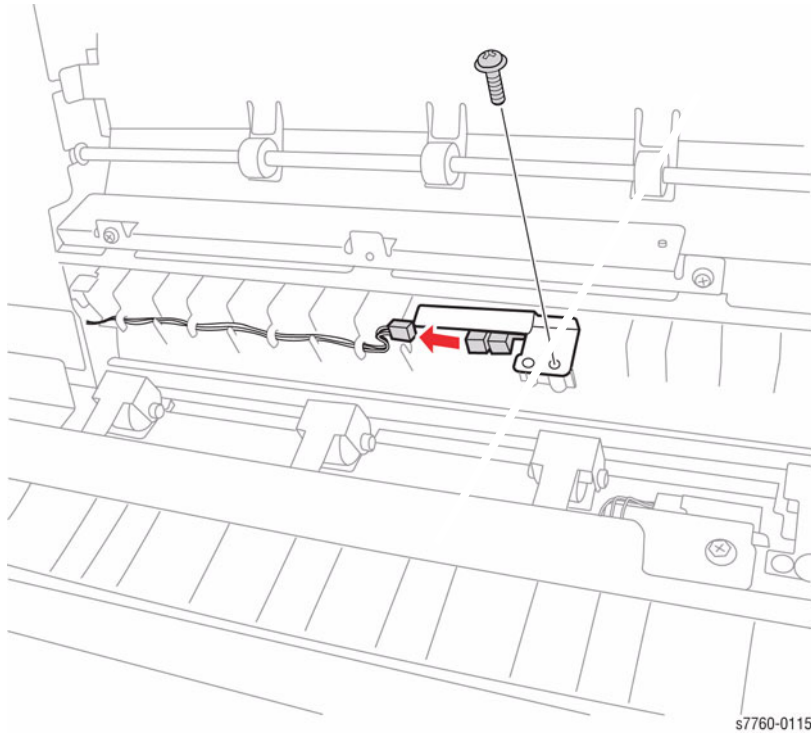

Figure 1 Removing Buffer Path Sensor
4. Removing the Buffer Path Sensor (Figure 1).